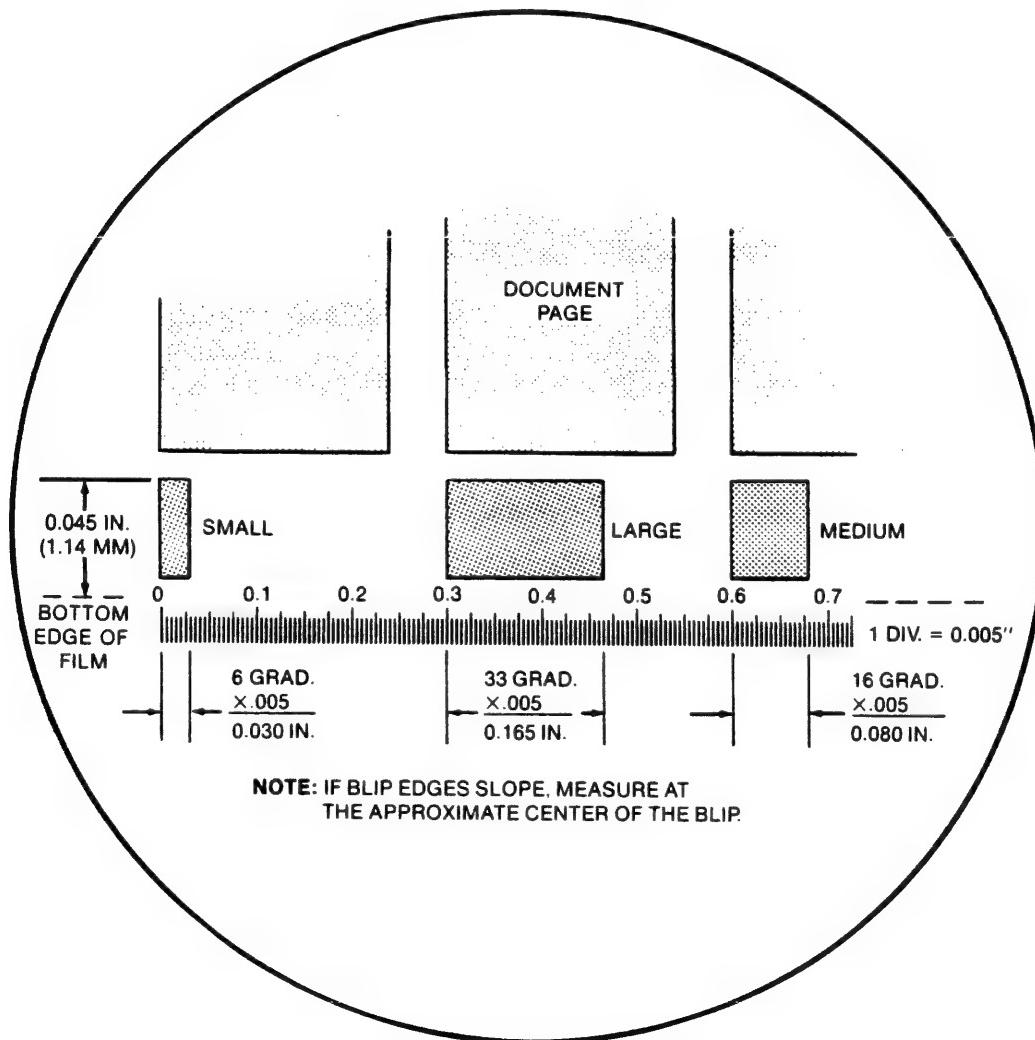

Figure 5-2.2A
1. Measure the suspected blips (or spacing) on film as shown in Figure 5-2.2A.